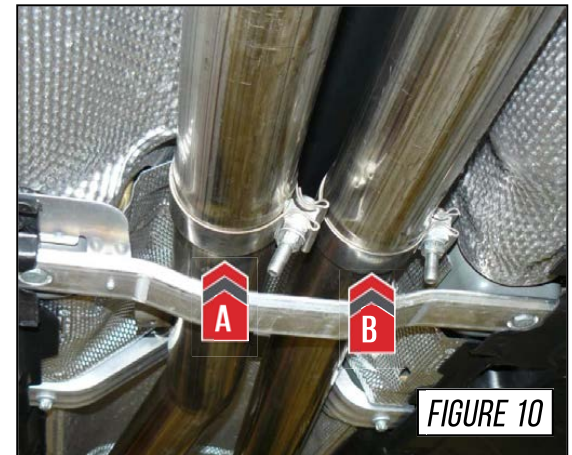

FIGURE 10
Using one of the included 3" Accu-seal clamps, install the driver side axle tube (part B61), as shown by **Arrow A** in **Figure 10**.
Repeat for the passenger side axle tube (part B62), shown by **Arrow B** in **Figure 10**.
**PRO-TIP:** As the exhaust heats up, it will expand and potentially hit anything close to it. If you orient the clamps as shown in **Figure 10**, it could help prevent this from happening.